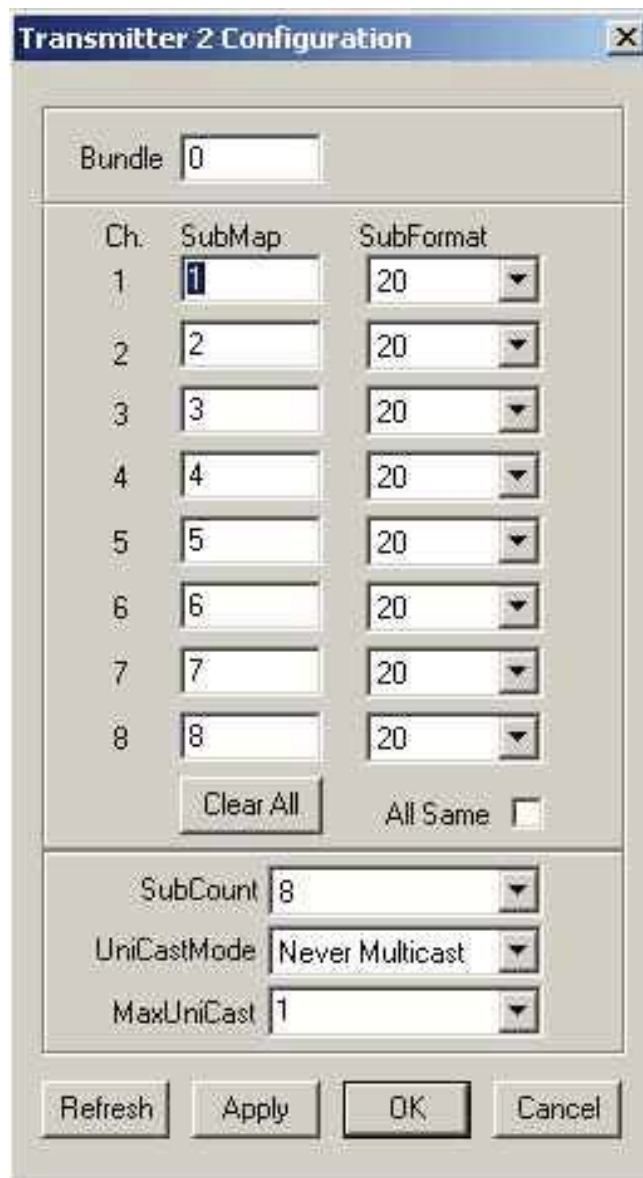

Figure 1-2: CobraNet™ Transmitter settings page
- Transmitter setup: This section covers the CobraNet™ transmitters (see Figure 1-2). The CS496112 chipset allows for up to 4 transmitters, each of up to 8 channels, subject to an overall channel count of 2 analog input channels and 8 network audio streaming channels. The settings are:-